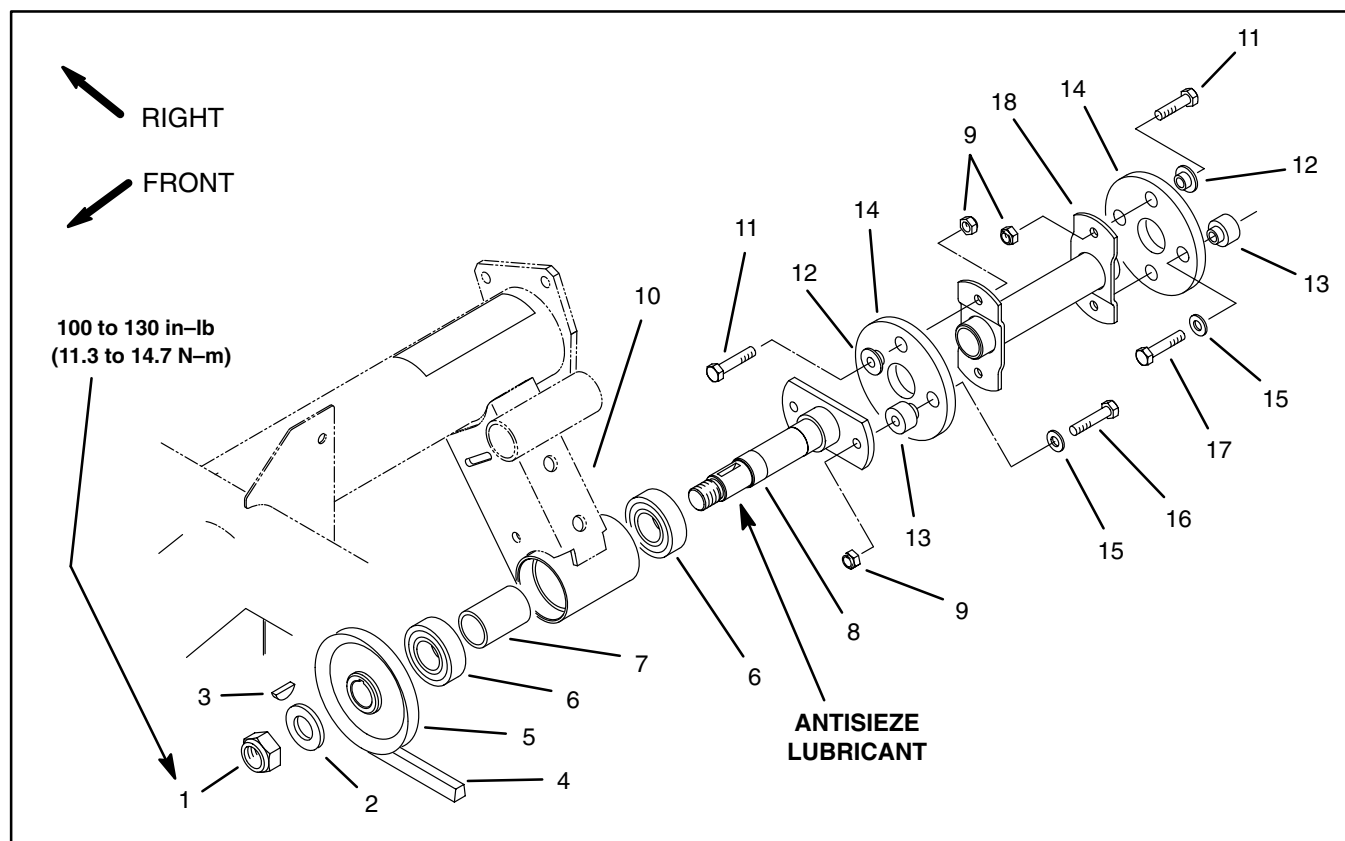

Figure 5
Removal (Fig. 5)
2. Disassemble driveshaft using Figure 5 as a guide.
Installation (Fig. 5)
4. Assemble driveshaft using Figure 5 as a guide.